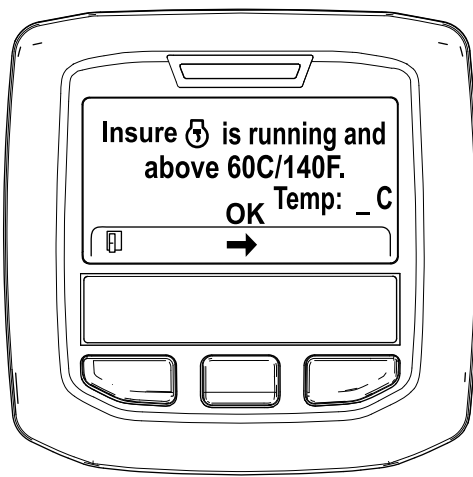

Figure 40
5. If the coolant temperature is below 60°C (140°F) the "Insure  is running and above 60C/140F" message displays. (Figure 40).